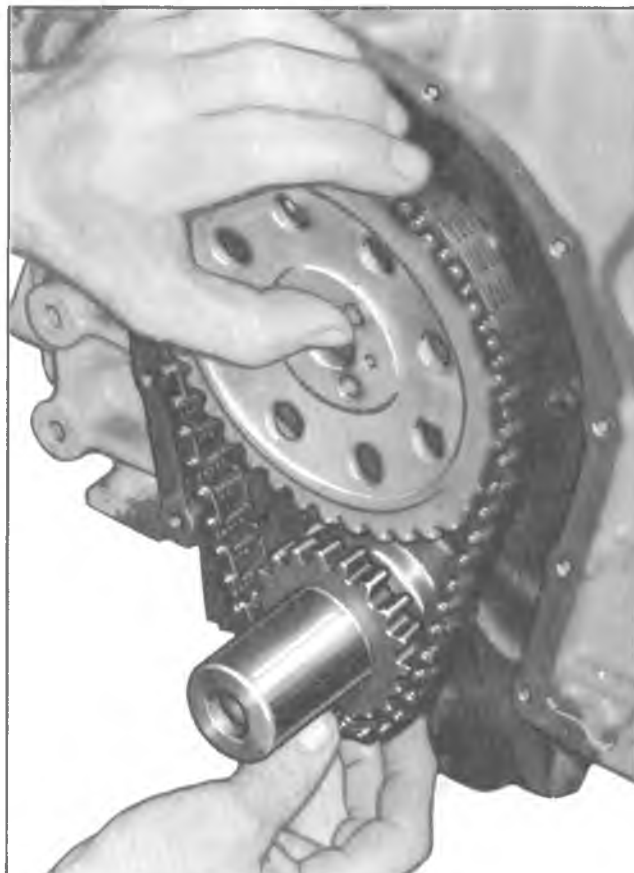

Fig. 17V—Installing Timing Chain
6. Install timing chain on camshaft sprocket. Hold the sprocket vertically with the chain hanging down and align marks on camshaft and crankshaft sprockets (fig. 17V).